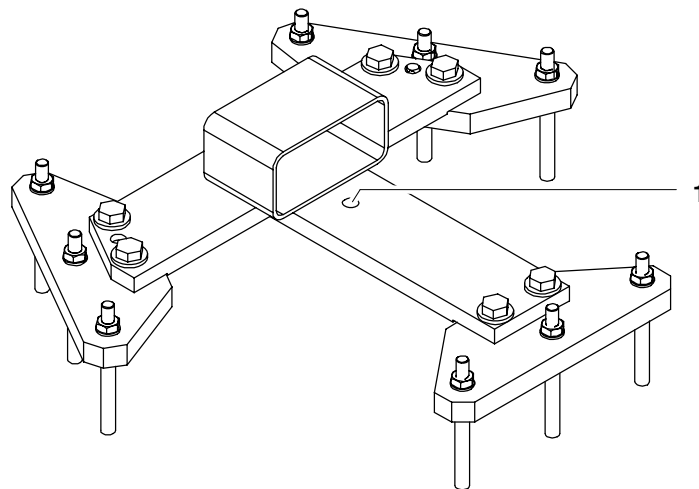

Fig. 33 Drilling template
To make the anchor holes a drilling template is also available (Fig. 33). The center of the manipulator, axis 1, is defined by the hole (1).